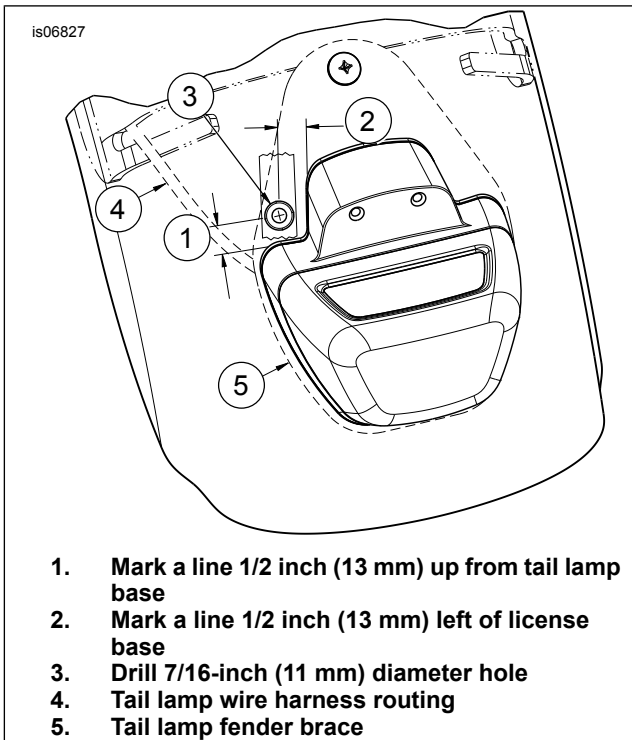

Figure 2. Wire Hole Location
3. See Figure 2. Drill a hole for the turn signal wires in the rear fender as follows:
- b. Measure up approximately 13 mm (½ in) from the tail lamp section of the base and mark a line (1) on the tape. Mark a second line (2) approximately 13 mm (½ in) to the left of the license plate section of the tail lamp base. Where the lines cross, mark the hole position with a center punch.
- c. Place a wooden block or similar protection between the rear tire and the underside of the fender at the drilling location. Make sure the tail lamp wire harness is below and clear of the hole location. Drill a 1/8 in (3 mm) pilot hole through the tape and fender, followed by a 7/16 in (11 mm) diameter hole (3).